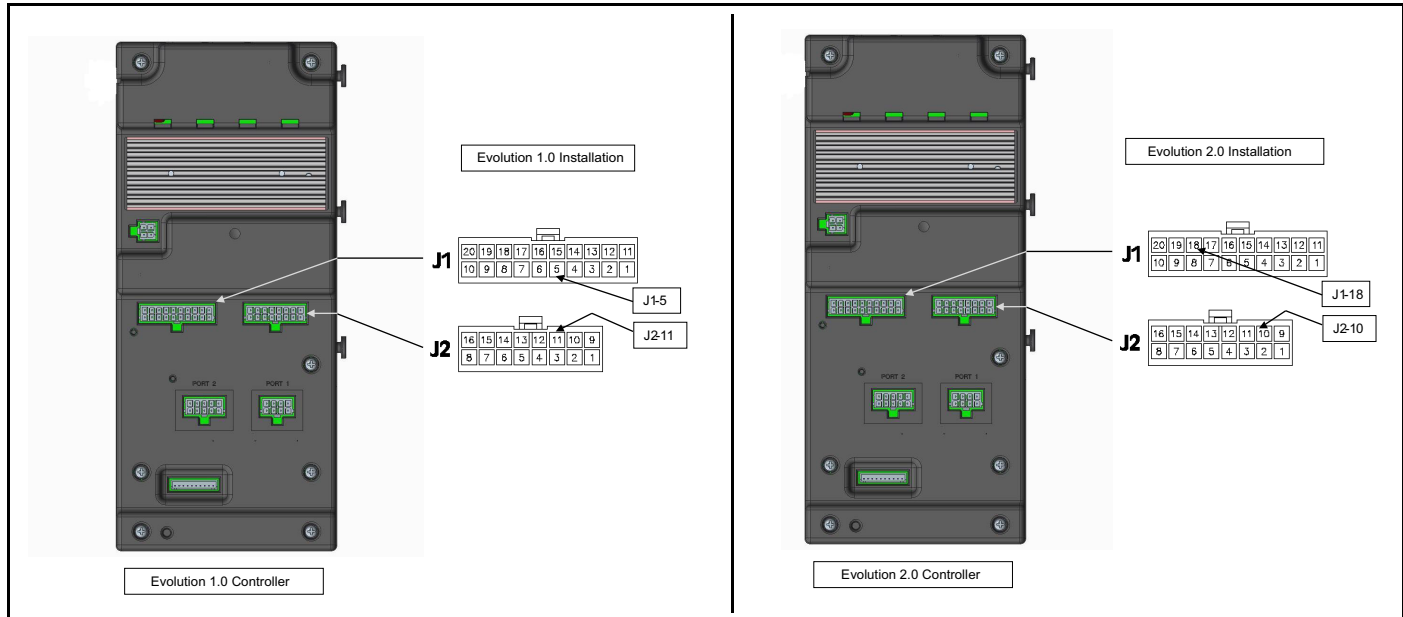

Figure 1 - Bottom (underside) of Evolution Controllers
1. See **Figure 1**—Bottom (underside) of Evolution Controller for Steps 1-3. Unplug the 20-pin connector (J1) and the 16-pin connector (J2) from the control panel underside by carefully releasing the latch on the side of each connector.
4. See **Figure 1**. Install the J1 and J2 harness connectors back into the J1 and J2 connectors on the back of the control panel.